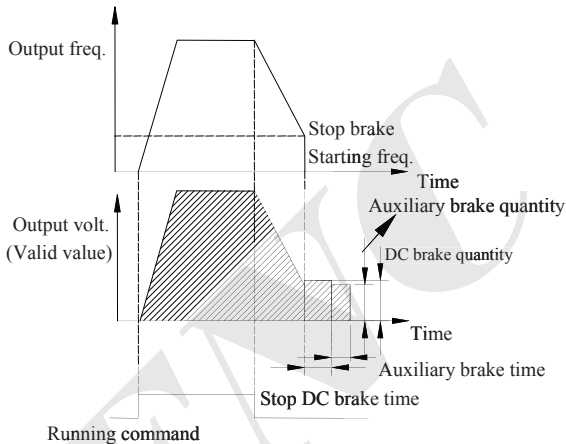

Fig. 7-5 Deceleration stop + DC braking
**2: Deceleration + DC braking stop.** After receiving stop command, the inverter reduces output frequency gradually according to the set deceleration time. When reaching F02.14 starting frequency of stop braking. After F02.15 defines DC braking waiting time, the inverter starts DC braking, as shown in Fig. 7-5.